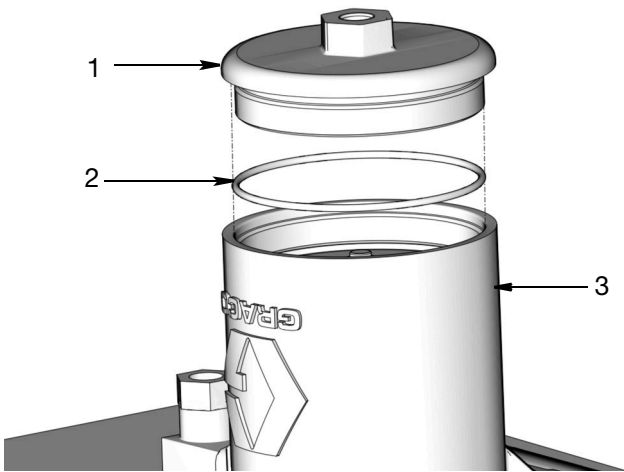

FIG. 22
21. Remove the cover (1), the cover o-ring (2) and the spring (6). Dispose of the o-ring according to all regulations for proper disposal (FIG. 22).